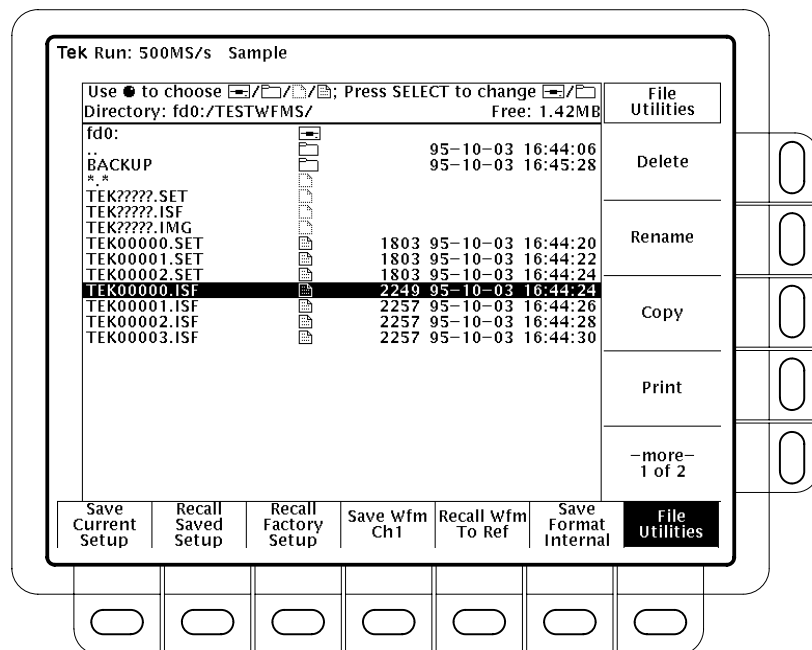

Figure 3–35: File utilities
2. Press File Utilities in the main menu to bring up the File Utilities side menu. (See Figure 3–35.)